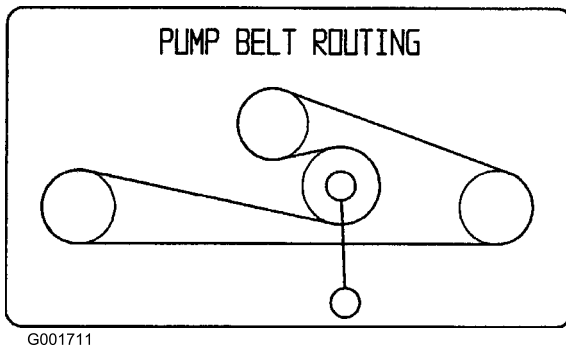

Figure 60
1. Pull the spring loaded idler down and remove traction belt from the engine and hydro pump pulleys (Figure 60). Remove belt between pulleys.
2. Install new belt around engine and hydro pump pulleys (Figure 60).
3. Pull spring loaded idler down and align below traction belt. Release the pressure on the spring loaded idler (Figure 60).